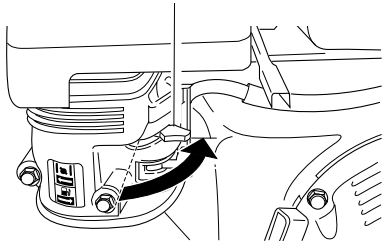

Figure 25 - Choke Lever Opened (Model MGH6500IE Shown)
5. As engine warms up, slowly move choke lever fully to the right (see Figure 25, page 13). This opens the choke. On Model MGH10000A, the choke will automatically open.